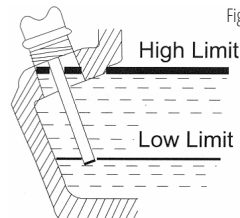

Fig. 10
1. Make sure that the generator is set on flat level surface (Fig. 10).